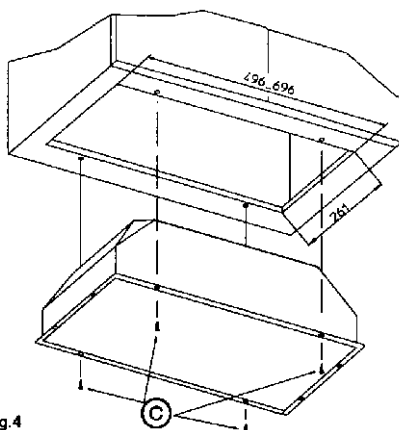

fig.4
- The cutout which must be made on the bottom of the cabinet must have the dimensions shown in Figure 4.
- Insert the screws supplied with the hood into the "C" holes and tighten the hood to the cabinet (Fig. 4).